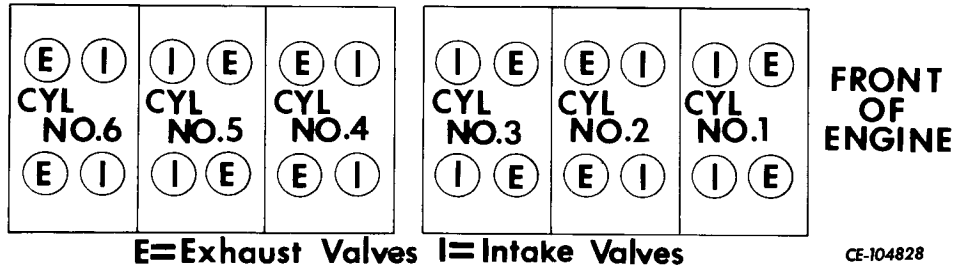

Fig. 30. Valve Arrangement
1. Remove the cover and gasket from both cylinder heads. Turn the crankshaft until the number one piston is on the compression stroke and the timing pointer on the front cover is in line with the TDC mark on the vibration damper. Fig. 30 shows the numbering sequence of the valves. Refer to "HAND CRANKING" in this section.